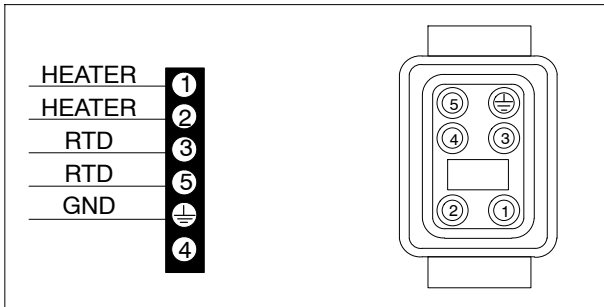

Figure 20: Applicator cordset pin positions
3. Refer to Figure 20. Test for continuity across the heater circuit (pins 1 and 2):
4. Refer to Figure 20. When the applicator temperature is known, measure the resistance across the RTD circuit (pins 3 and 5).